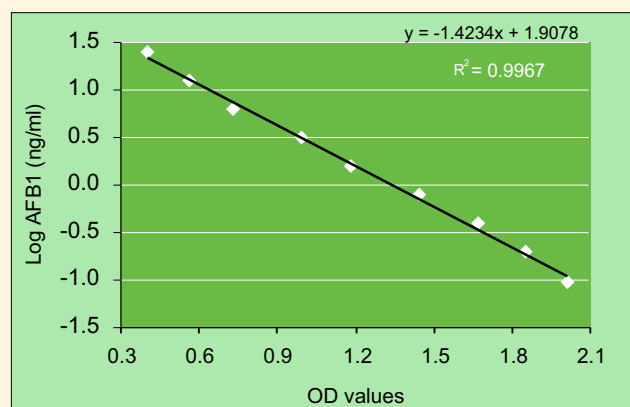

Figure 2: Regression/standard curve for aflatoxin estimation by ELISA.
**Calculations:** Take mean ELISA plate reading values (OD) for each standard and sample. Plot a standard curve by placing AFB1 standard concentration values on Y axis and respective OD values on X axis (Figure 2) on a semi-log graph paper. Correlate the unknown sample OD values where it touches the standard curve to determine the AFB concentration in the sample and determine the AFB content in the sample using this equation: